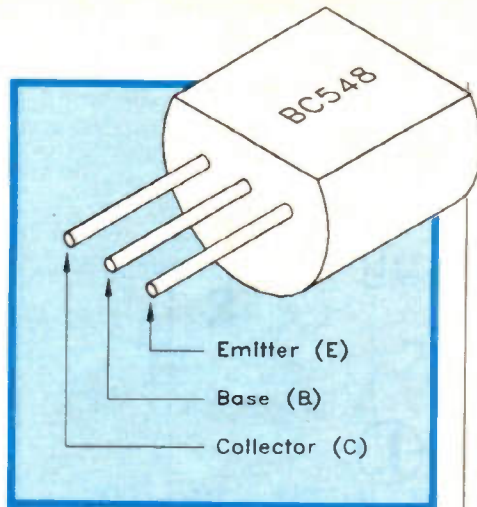

Figure 4. Transistor (TR1, TR2) connections.
d) TR1 and TR2 should be fitted to the board next; these have a small black plastic body and three leadout wires. They are marked with their type number, which in each case is 'BC548'. Other markings may also be present; you will have to get used to picking out the important markings on chips and transistors (and ignoring the others!). You must ensure that TR1 and TR2 are fitted to the board correctly. Figure 4 shows which